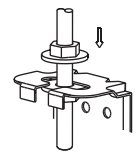

Fig.5-7
- Locate the air conditioner firmly by wrenching the nuts after having adjusted the body's position well. (Refer to Fig.5-7)